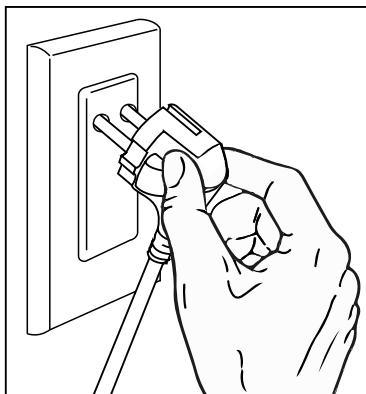

figure 1
1. Plug-in the sander's AC power cord to the power source (220-240Va.c. output). The warning "beep" sounds would be occurred after the plug is securely plug-in to the power source and the LED indicator shows "Solid Red" color at the moment. - see figure 1.